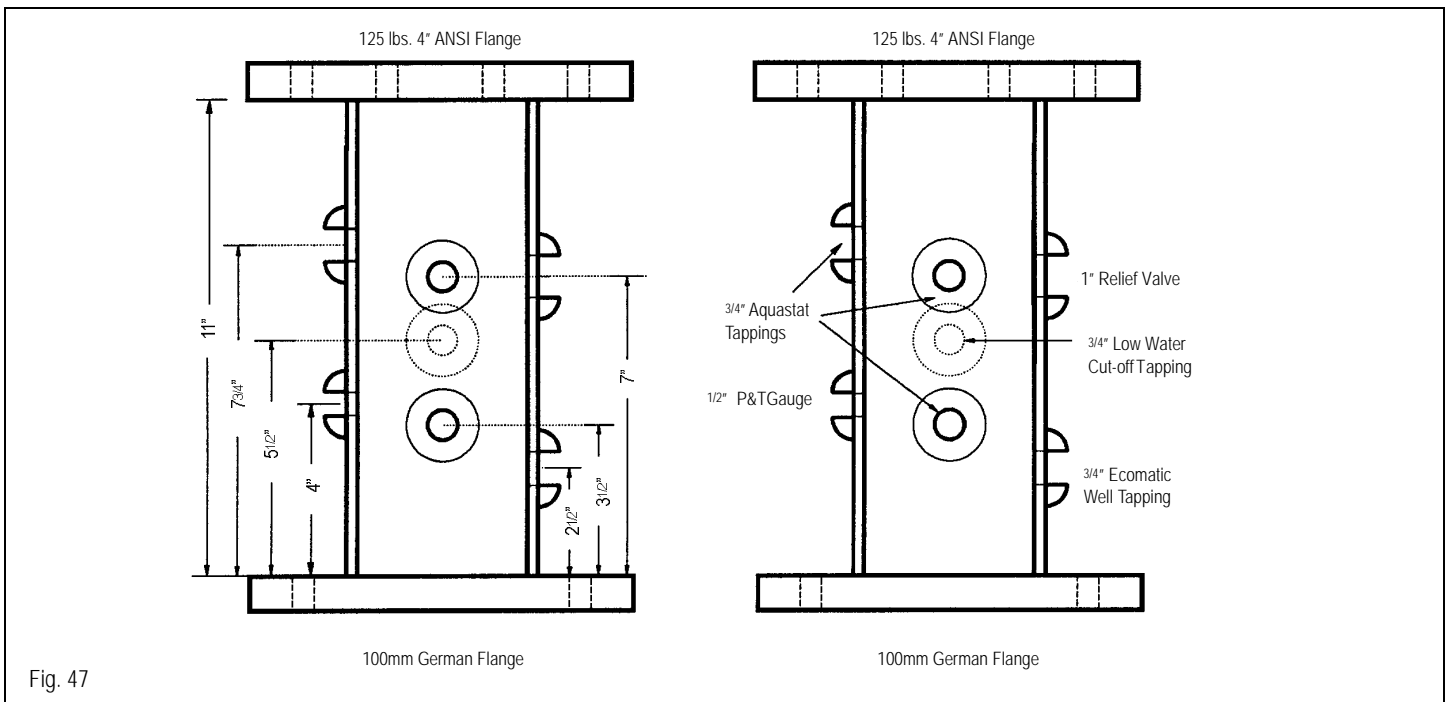

Fig. 47
- Refer to Figure 47 for details.